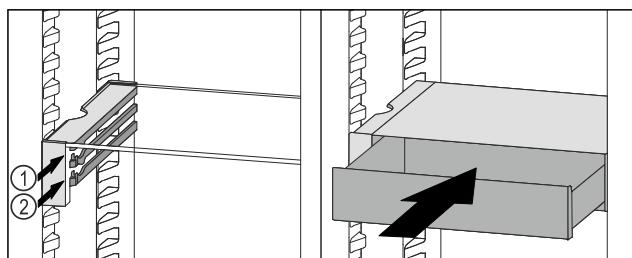

Fig. 128
- ▶ Place the VarioSafe drawer behind the stoppers on desired rib Fig. 128 (1) or Fig. 128 (2).